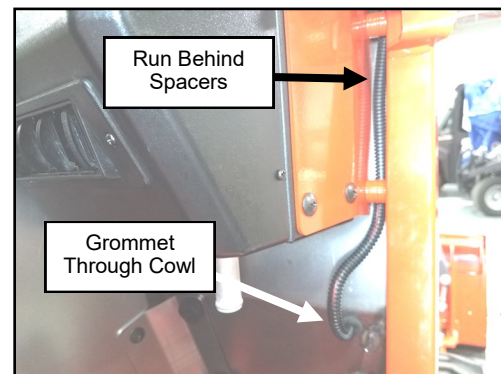

Fig. 19.6 (Pass Wire Harness Through Cowl)
- 19.6** Slide the provided 3/8" ID rubber grommet over the free end of the wire harness and install through the 1/2" hole in the cowl. See Figure 19.6.